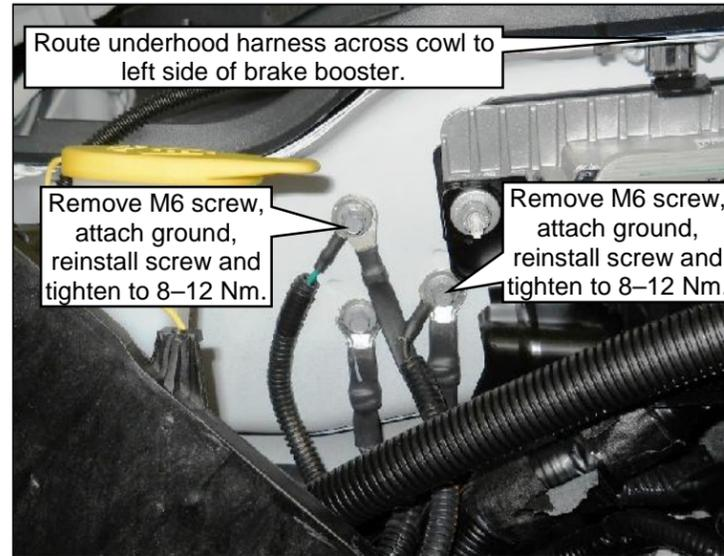

Figure 15.1
8. Attach the two ground connections (breakout from main harness with CAN bus harness connection) to the OEM ground attachments next to the PCM. They are the fuel pump and SRM grounds. Connect the underhood harness ground eyelets to the existing Ford ground location on right side next to the PCM. **Figure 15.1.**